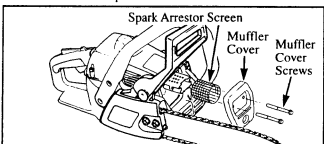

Figure 32
2. Remove the muffler cover screws and muffler cover. Figure 32.
3. Remove the spark arrestor screen. Figure 32.